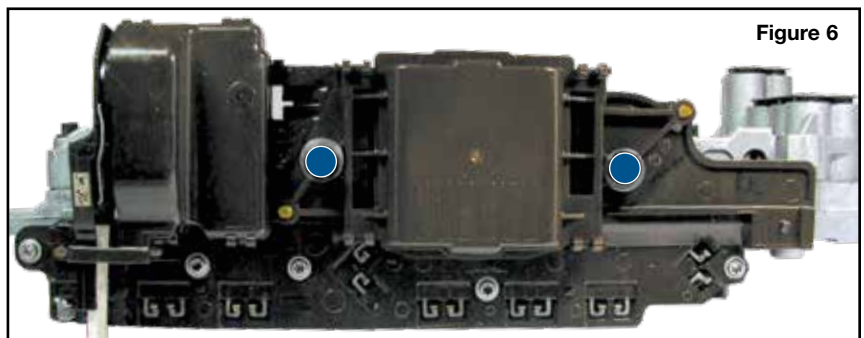

Figure 6
- Remove the two 8mm head bolts on the side of the TEHCM (**Figure 6**).
- b. Place the TEHCM on the valve body. Install the two 8mm head bolts and *hand-tighten only* (Figure 6).